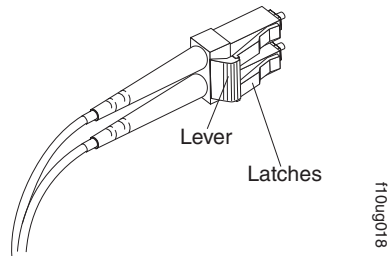

Figure 42. LC-LC fibre-channel cable lever and latches
1. On the end of the cable that connects into the LC connector end of the LC-SC cable adapter, press down and hold the lever to release the latches. Figure 42 on page 49